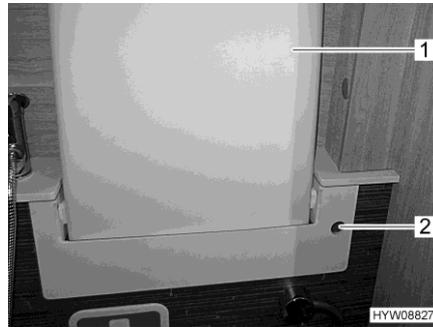

Fig. 107 Wash basin (folded upwards)
- Grip the wash basin (Fig. 107,1) at the front edge and swivel it upwards to the wall until it engages.
- Reach into the opening (Fig. 107,2) and press the latch backwards.